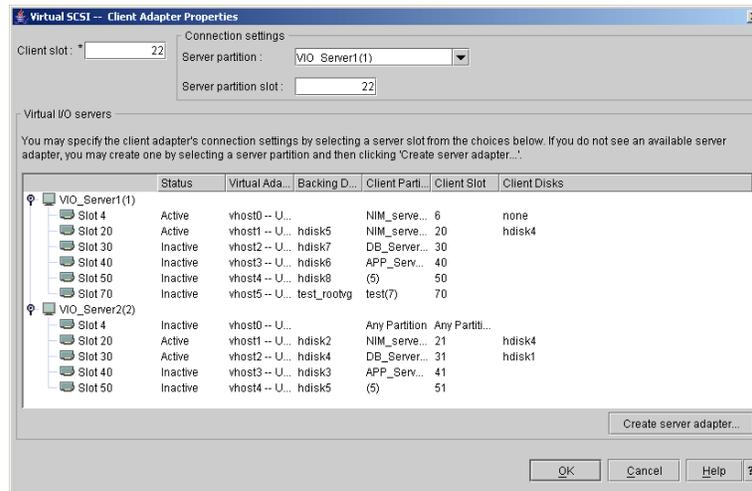

Figure 5-2 Virtual SCSI client adapter properties window
- Figure 5-2 shows you the window after clicking **Create client adapter**. Put in the slot number for the client adapter in the upper left hand portion of the window. Under the Connection settings box, choose the Virtual I/O Server partition using the drop-down arrow key and input the corresponding Virtual I/O Server slot number for the server adapter.
- In the Virtual I/O Server dialog box (Figure 5-2), choose the Virtual I/O Server where you want to create the adapter, highlight it, and click **Create server adapter**.